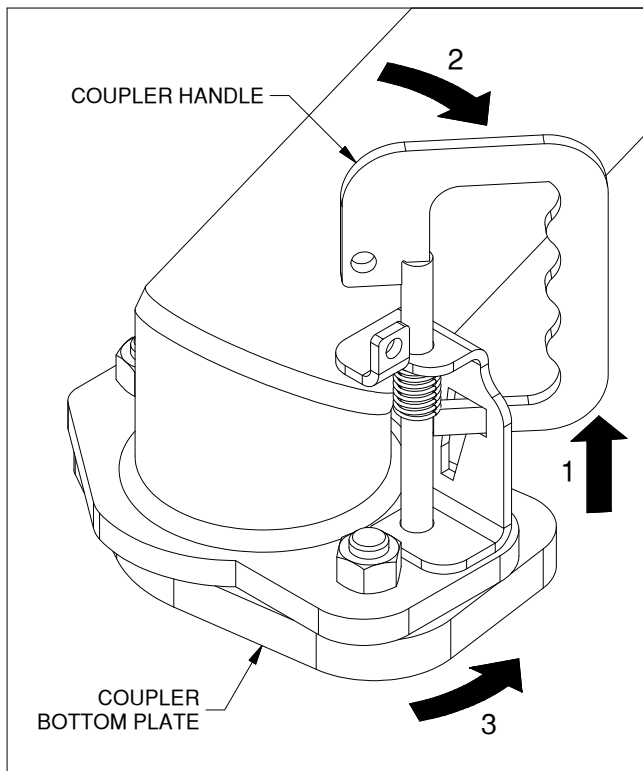

FIGURE B1: Coupler in "open" position
- 1. Set the coupler to the "open" position. To do this, (1) grip the handle and pull straight up about 1", (2) rotate the handle clockwise until it stops, then release. (3) Rotate the coupler bottom plate counter-clockwise until it stops. See figure B1.
2. Set the coupler to the "open" position. To do this, (1) grip the handle and pull straight up about 1", (2) rotate the handle clockwise until it stops, then release. (3) Rotate the coupler bottom plate counter-clockwise until it stops. See figure B1.